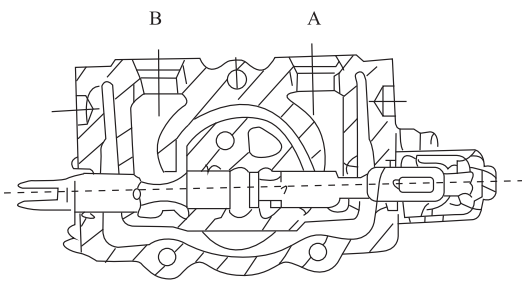

Fig. 7-5
(2) Pushing-in of spool (See Fig. 7-5)